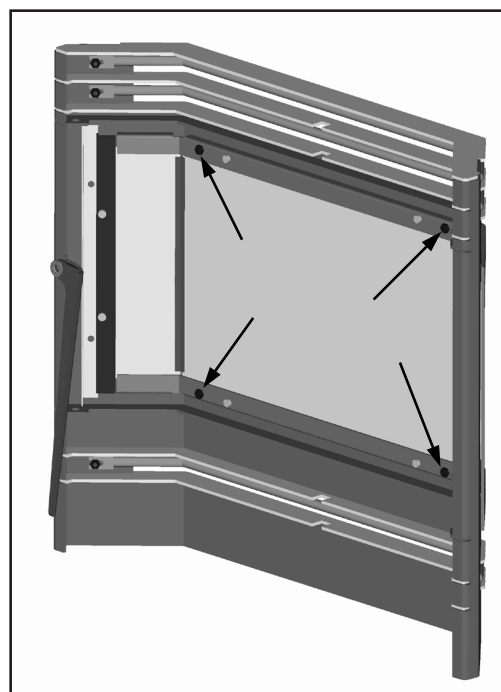

Figure 45: Inner side of Meridian door.
When stove is off and cool, open the door. Remove the four (4) #8 hex nuts around the inside of the glass retainer shown in Figure 45.